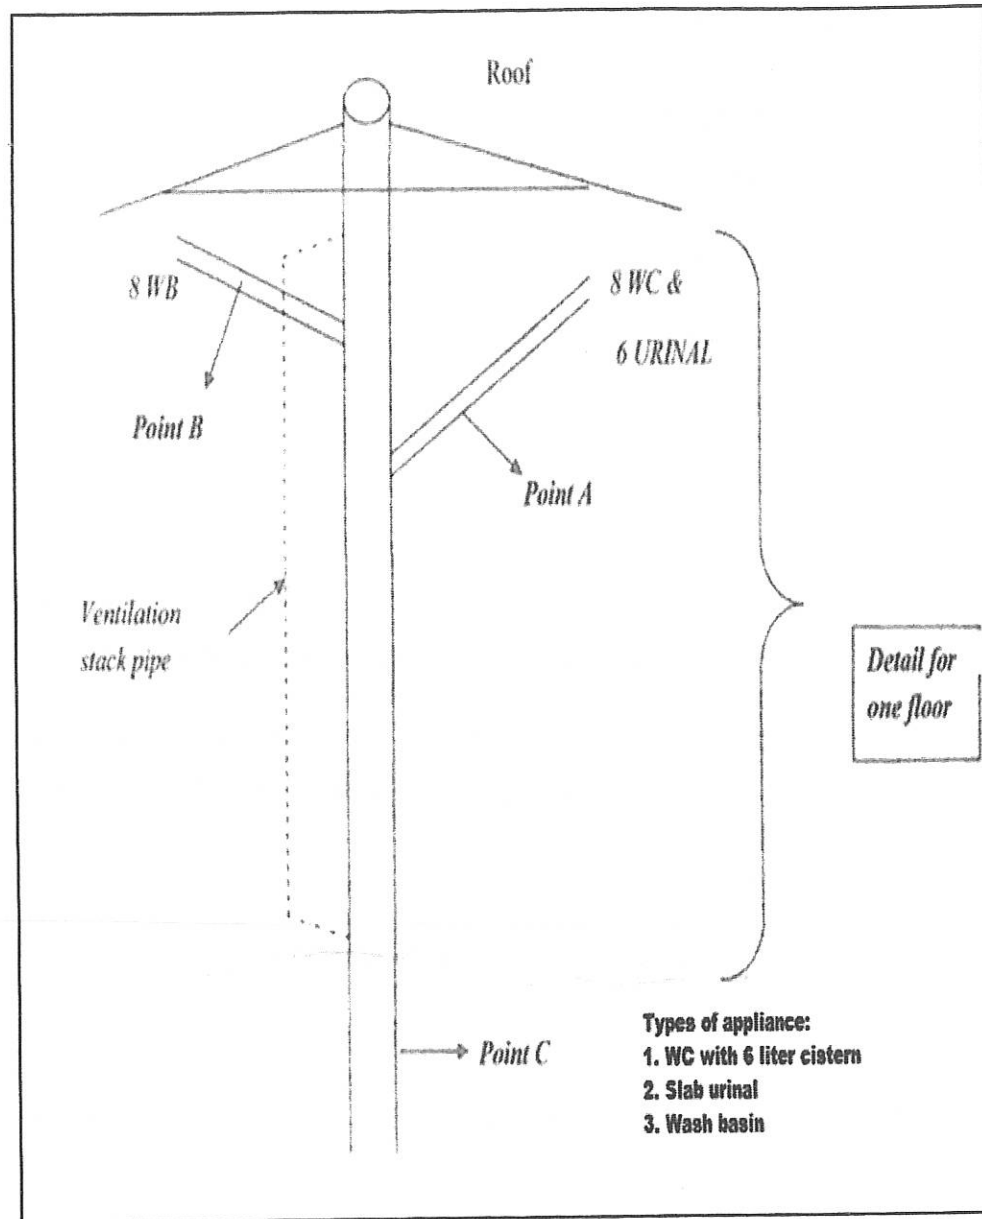

Figure 2.0 / Rajah 2.0
- (c) Figure 2.0 shows a schematic sketch of a sanitary piping system for a 4 storey school building. Based on the sketch given, calculate: (refer table 1, 2, 3 & 4)